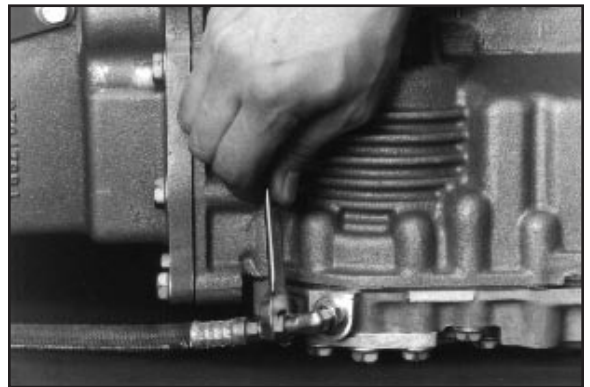

Fig. 11 (Left side)
11. Use the special fitting to securely attach the high pressure line to the transmission. This fitting is included with the P.T.O. (**Fig. 11**). See the chart on page 12 for the correct hose specifications. With the hose and P.T.O. securely connected, refill the transmission to the manufacturer's suggested specifications.